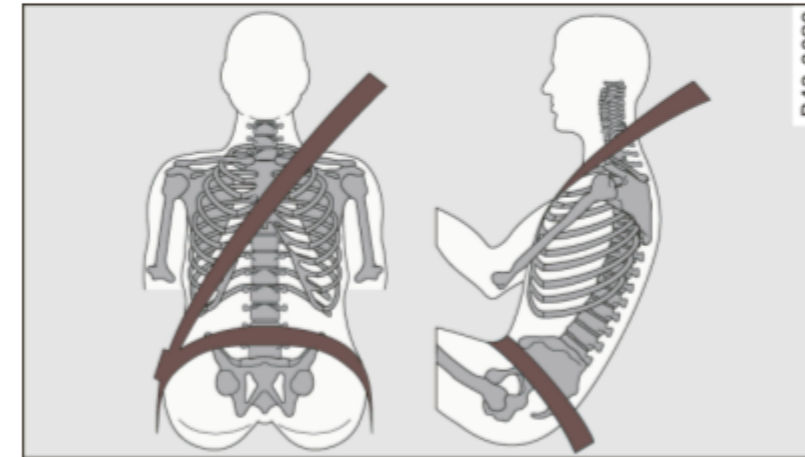

Fig. 96 Head restraint and safety belt position as seen from the side
- The safety belt must lie flat and snug on the occupant's upper body ⇒ fig. 96. Pull on the belt to tighten if necessary.
- The lap belt portion of the safety belt must be positioned as low as possible across pelvis and never over the abdomen. Make sure the belt lies flat and snug ⇒ fig. 96. Pull on the belt to tighten if necessary.